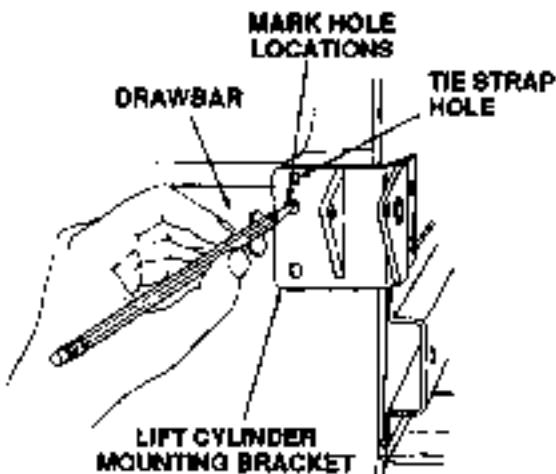

Figure 7-47. Marking Location For Holes.
- b. Using the two holes in the rear of the cylinder mtg. bracket (1) as a template, mark the hole locations on the tractor drawbar. See Figure 7-47